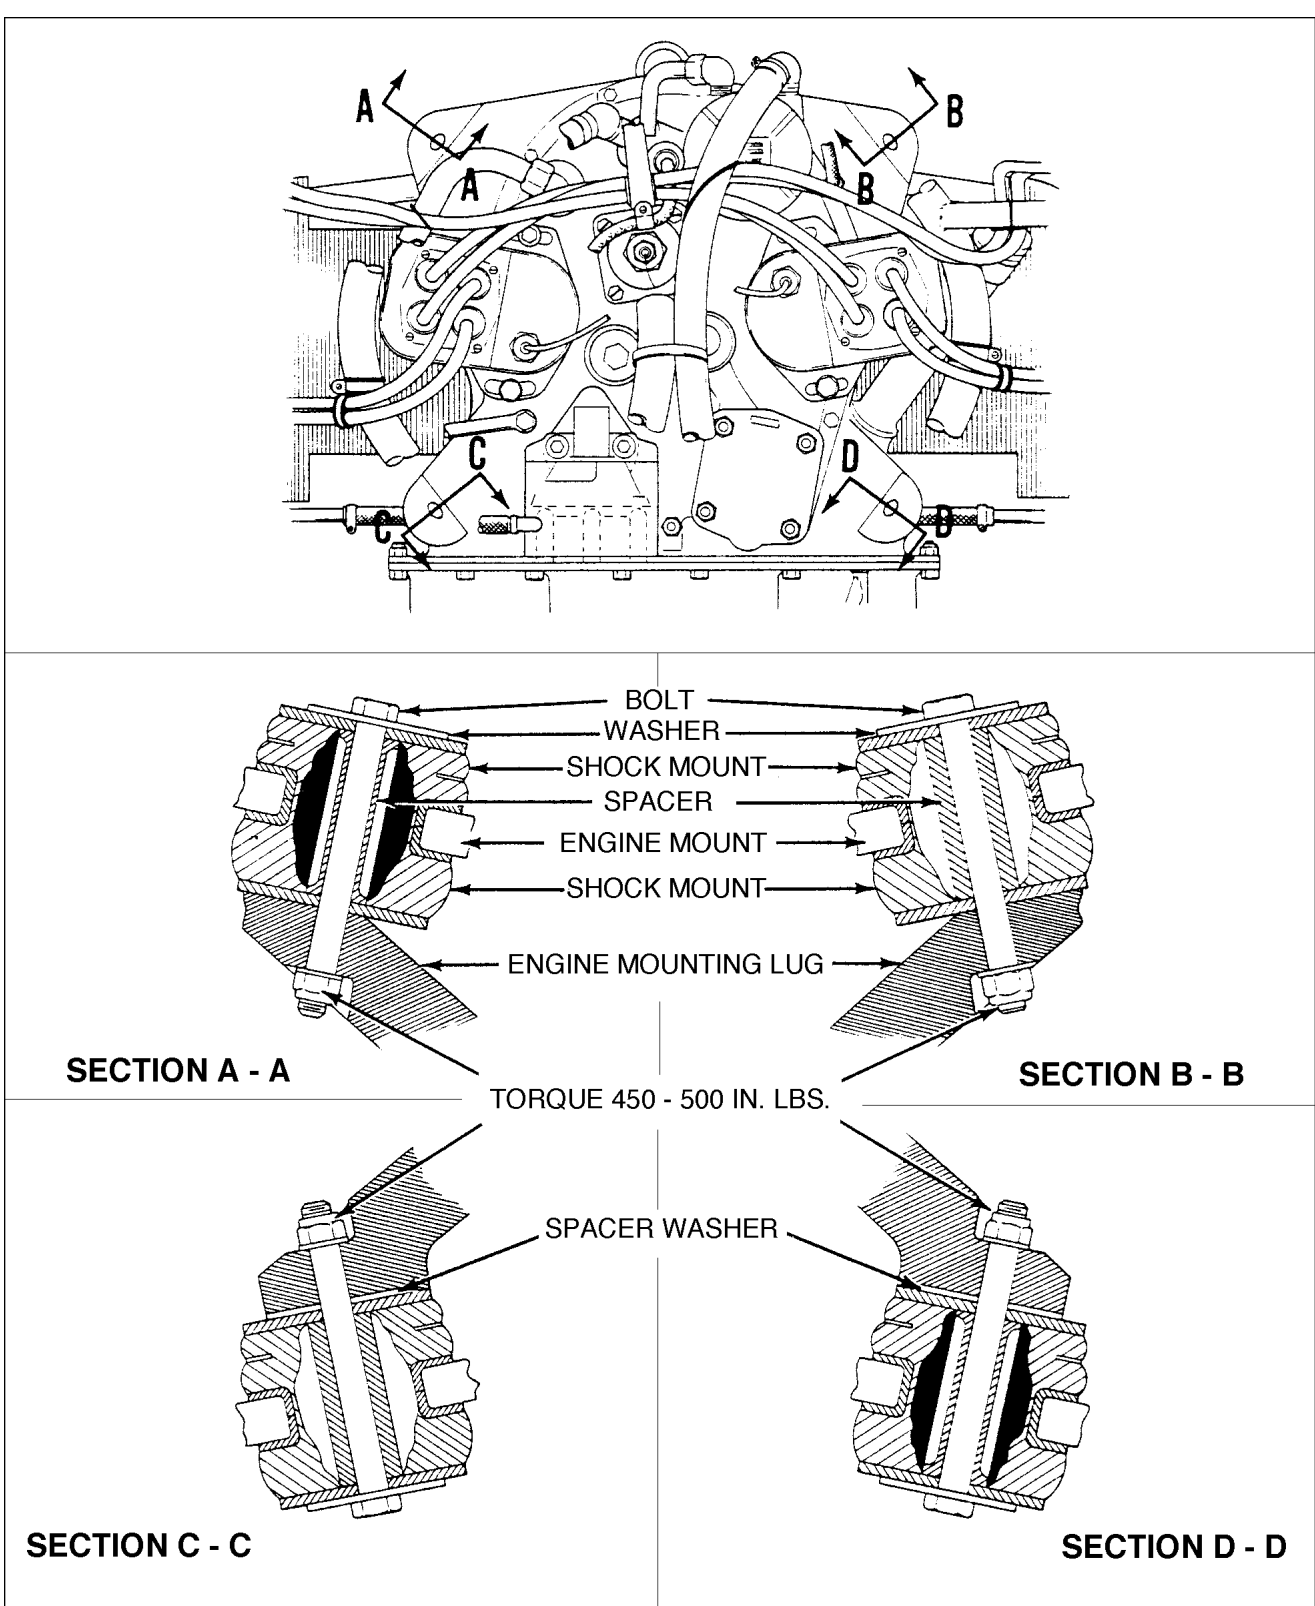

Figure 8-4. Engine Shock Mount Installation
| 3. SHOCK MOUNT (SEE FIGURE 8-4) | 11. ENGINE MOUNT ASSEMBLY  | 19. OIL COOLER     |
- c. Assemble the engine shock mounts as shown in Figure 8-4. Note the position of each mount carefully. The upper right and lower left mounts are installed the same. The upper left and lower right are installed the same.
### **8-12. INSTALLATION OF ENGINE SHOCK MOUNTS. (Refer to Figure 8-4.)**
- a. Assemble the engine shock mounts on the engine mount as shown in Figure 8-4. Note the position of each mount carefully. The upper right and lower left mounts are the same, as are the upper left and lower right.